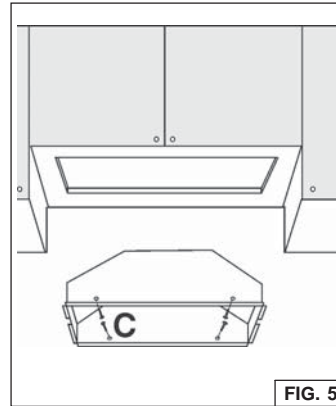
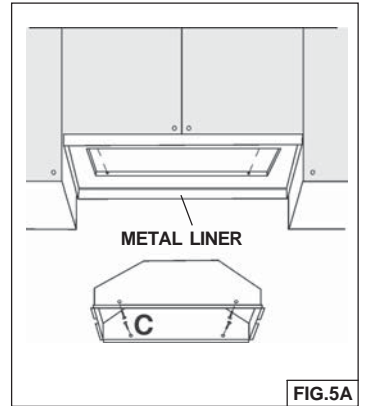

FIG. 5
FIG.5A
4. **NOTE:** For installations where the Power Pack is less than 30" above cook top, it is recommended that the Power Pack be mounted into a metal liner or non-combustible material. This will allow easier cleaning and provide protection to the cabinetry (Fig.5A).
5. Insert the hood in the cabinet (Fig. 5) or metal liner (Fig. 5A) and lock in place by means of the side spring.
6. Secure the hood with the (4) "C" mounting sheet metal screws. (Fig. 5 - wood bottom installation; recommended thickness 1/2"-3/4").